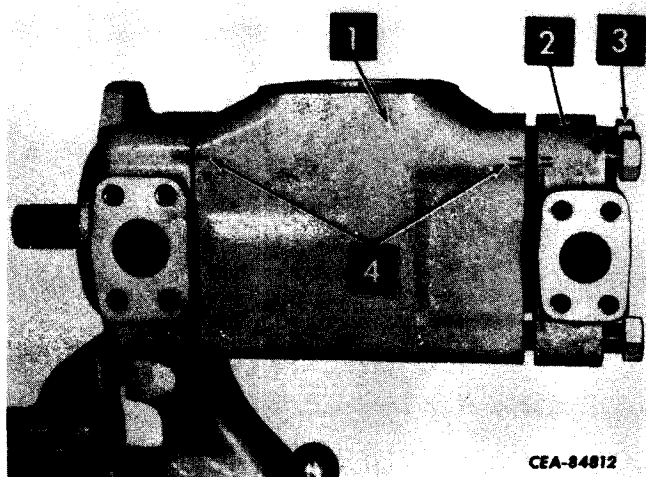

Figure 11-5
Place pump in a vise and scribe marks (4, Fig. 11-5) on pump housing to aid in positioning parts during assembly.
Place inlet housing (1, Fig. 11-5) over cartridge so locating pins are properly engaged and inlet is in correct position with respect to outlet body. Refer to reference marks (4).
Install cover (2, Fig. 11-5) and screws (3). Torque cover retaining screws. Refer to "SPECIAL TORQUES."